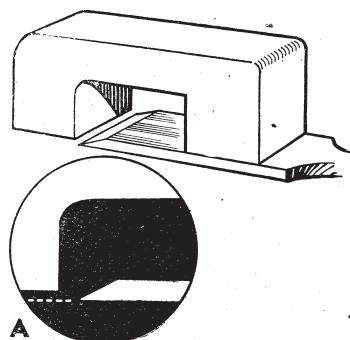
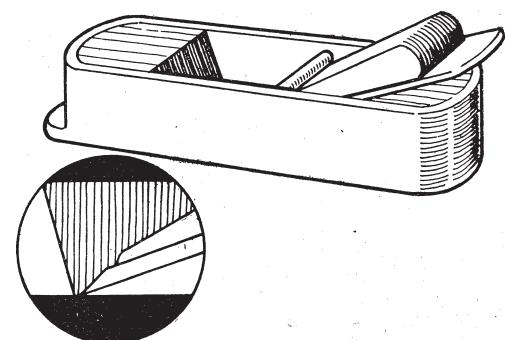
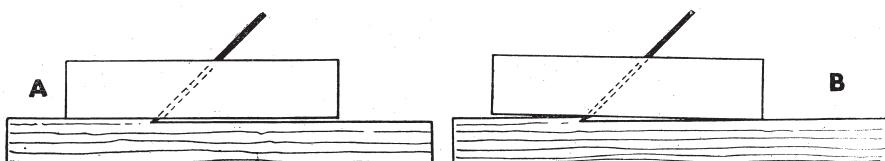
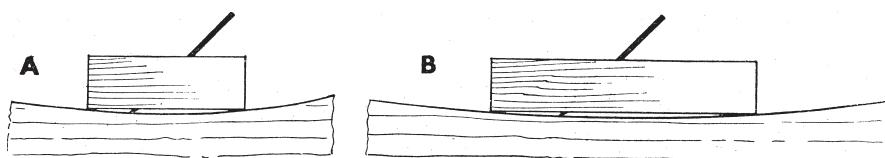

FIG. 2. THE "CHISEL PLANE"
FIG. 3. SKETCH OF SIMPLE BLOCK PLANE
FIG. 4. WHY THE PLANE IS NOT PERFECT IN PRINCIPLE
FIG. 5. HOW LENGTH OF PLANE AND CUTTER PROJECTION AFFECTS WORKING
The Plane a Form of Chisel. Let us consider first the simple plane, one without a back iron. The chisel acts virtually as an inclined plane in that the shavings are forced uphill, so to speak; also it is guided by its flat face. If now we were to fix to the chisel the curious device shown in Fig. 2 it would have two results: it would determine the thickness of the chip in accordance with the difference in
level (see A); and it would help in guiding the chisel along a straight line since it would prevent the front from digging in. We have thus virtually produced a plane, though so crude a device would have many drawbacks. For instance, the shavings would always have to be the same thickness, and the edge would be awkward to sharpen. Instead, the plane shown in Fig. 3 has been evolved in which the cutter is quite separate so that it can be fed out or in at will, thus
enabling the chip (or shaving as it now becomes) thickness to be varied. This is made clear in Fig. 3, from which it will be seen that fundamentally it is the same as Fig. 2. Since the cutter beds solidly on the frog, it virtually becomes one solid piece.
Fig. 2, but this is not practicable, and as it happens the plane works perfectly well with a straight sole. In fact, there is an advantage in that the plane tends to make the work slightly hollow, the amount depending upon the length of the plane and the projection of the cutter, as shown in Fig. 5. Fig. 4 explains the point about the plane not being perfect, and it will be seen that when an edge is being planed either the plane must be pressed down at the front, leaving the rear unsupported (A), or the back must be pressed down so that the front sticks up (B). Of course, the thing is complicated by the fact that the cutter does not extend over the entire width of the plane, but, as we say, the point is not worth bothering with because the plane as it has been evolved works perfectly well.
Length of the Plane. Fig. 2 is a diagrammatic view of this elementary form of plane, from which it will be seen that the projection of the cutter from the sole controls the thickness of shaving it removes. From this it might seem that all the essentials had been provided for, and that there was nothing else that could be done with advantage. A little reflection shows, however, that, although it would do its work well enough in ordinary, simple circumstances, there would be serious disadvantages in certain kinds of work.
In the first place it has to be realised that the plane is not really perfect in principle. Turn for a moment to Fig. 3.